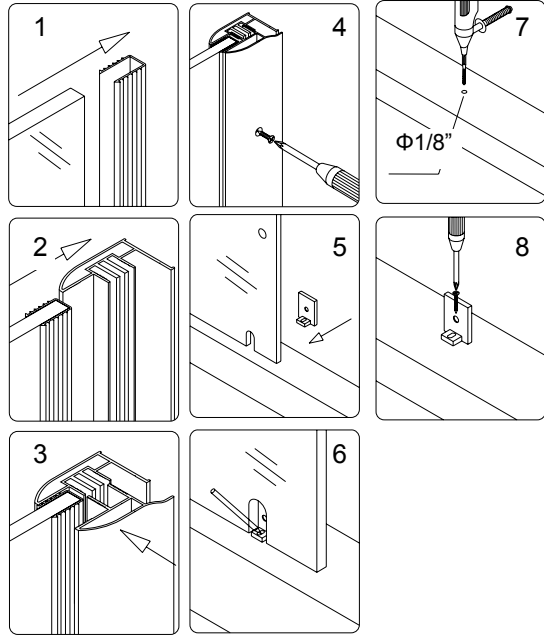

Fig 2
2. a) Locate the **Stationary glass panel (02)** from the package and push the **U-shape seal gasket (13)** onto the vertical edge of the stationary glass. Set the glass panel onto the threshold, tray or bathtub, push it into the groove of the profile and then snug it down with internal **Glass Profile (01)** with **Countersunk screw ST 4.2×18 (09)**. See Fig.2 (Images 1-4) for details.
b) Take apart the **Bottom bracket (14)**, place the mounting part into the U shape hole of the **Stationary glass panel (02)** from inside and mark the drill hole on the threshold, tray or bathtub. Remove the **Stationary glass panel (02)**, drill the hole and fix the **Bottom bracket (14)** with **Round head screw ST4.2×30 (10)**. See Fig.2 (Images 5-8) for details.